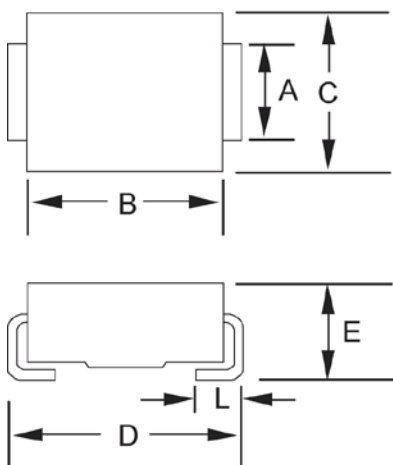

**FIGURE 6**
The TVS low capacitance device configuration is shown in figure 4. As a further option for unidirectional applications, an additional low capacitance rectifier diode may be used in parallel in the same polarity direction as the TVS as shown in figure 5. In applications where random high voltage transients occur, this will prevent reverse transients from damaging the internal low capacitance rectifier diode and also provide a low voltage conducting direction. The added rectifier diode should be of similar low capacitance and also have a higher reverse voltage rating than the TVS clamping voltage  $V_C$ . The Microsemi recommended rectifier part number for the application in figure 5 is the “SMBJLCR80” or “SMBGLCR80” depending on the terminal configuration desired. If using two (2) low capacitance TVS devices in anti-parallel for bidirectional applications, this added protective feature for both directions (including the reverse of each rectifier diode) is inherently provided in Figure 6. The unidirectional and bidirectional configurations in figure 5 and 6 will both result in twice the capacitance of figure 4.